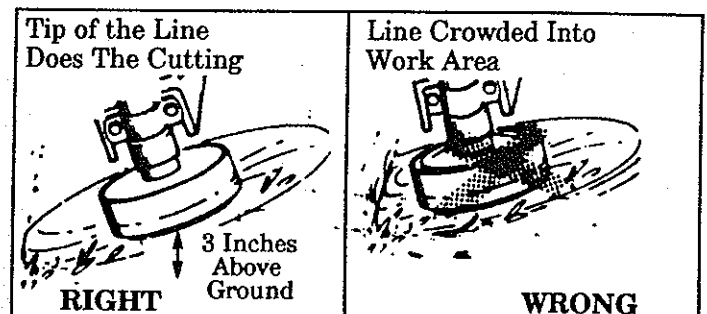

Figure 13
- The tip of the line does the cutting. You will achieve the best performance and minimum line wear by not crowding the line into the cutting area. The right and wrong way are shown in Figure 13 .